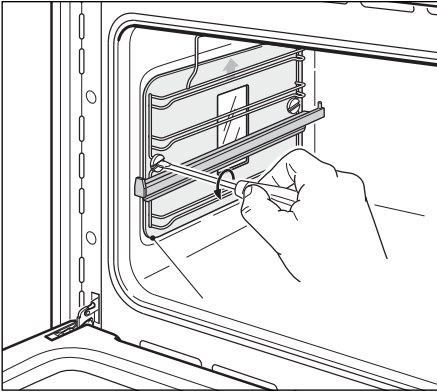

Fig.34 Removing the side racks and catalytic panels (some models only)
The catalytic panels are covered with a special microporous enamel which absorbs and does away with oil and fat splashes during normal cooking over 200 °C. If, after cooking very fatty foods, the panels remain dirty, heat the oven on maximum for an hour to an hour and a half, and they will self-clean. The side panels are reversible. Make sure that you replace them with the arrow up, and on the correct side. To remove the side catalytic panels, you first need to unscrew the side racks. See Fig. 34.
- 1 Remove the side racks by unscrewing the fixing screws (Fig. 34).